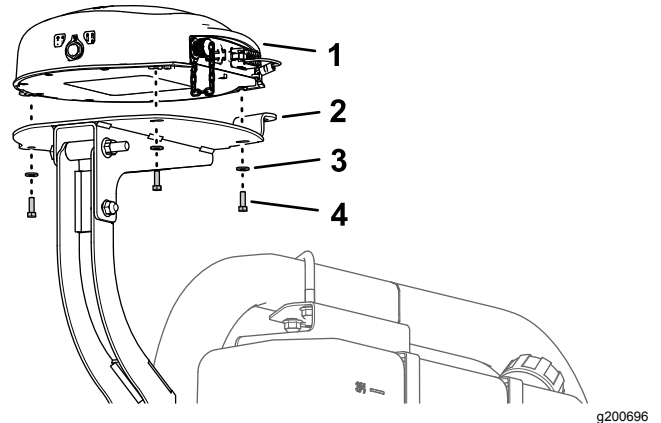

Figure 158
1. Align the 3 threaded in the base of the navigation receiver to the 3 holes in the receiver mount (Figure 158).
2. Assemble the receiver to the mount (Figure 158) with the 3 hex-head bolt (5 x 16 mm) and 3 washers (5 mm).